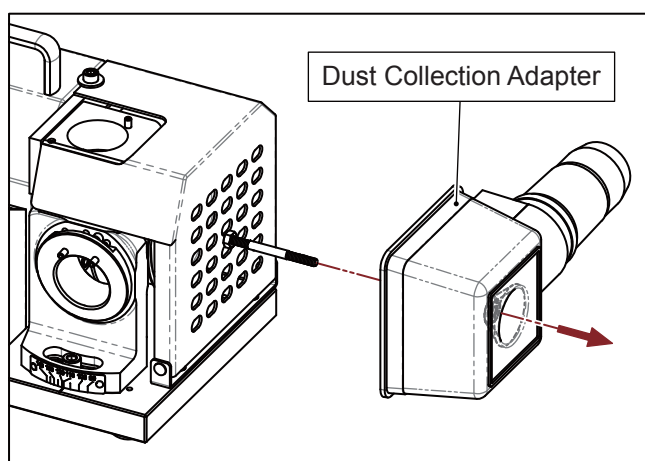

Fig. 4-2
2. Align the hole in the center of the dust collection adapter to threaded rod. Push the dust collection adapter to the end. (Fig. 4-2)